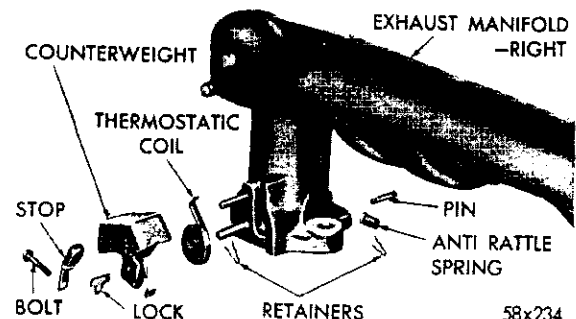

Fig. 9—Manifold Heat Control Valve
The purpose of the manifold heat control valve (Fig. 9) is to direct hot exhaust gas to a heat chamber in the intake manifold and pre-heat the fuel and air
a. Disassembly (Figure 9)
(1) Loosen the retaining nut and remove the counterweight, lock and stop from the end of the shaft, exposing the thermostatic coil.
(2) Unhook the coil from the pin and remove by prying out of valve shaft slot.
(3) If the valve shaft is frozen in the manifold, apply manifold heat control valve solvent, MoPar Part No. 1879318, and allow to stand several min-